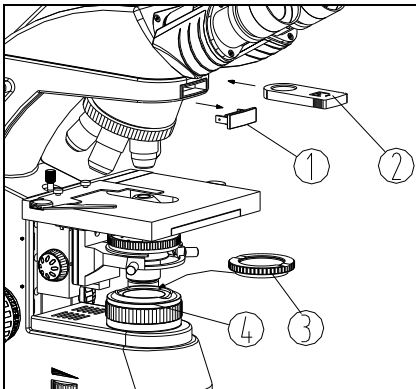

Fig. 30
1. Simple polarizing includes analyzer② and polarizer③ (see Fig. 30).
2. Unplug analyzer dust-cover① from the arm, and insert analyzer face up.
3. Put the polarizer into the condenser④ groove as the figure shows.
4. Rotate the polarizer③ can change the orthogonal status of polarization.